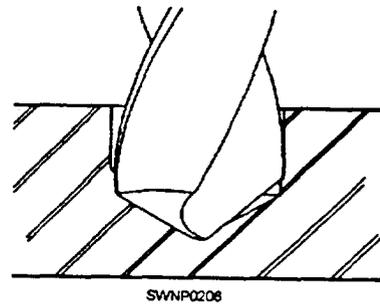

Figure 12-20.—Unequal drill point angles.
2. LENGTH AND ANGLE OF LIPS. The material to be drilled determines the proper point angle. The angles, in relation to the axis, must be the same. Fifty-nine degrees has been found satisfactory for most metals. If the angles are unequal, only one lip will cut and the hole will be oversize (fig. 12-20).